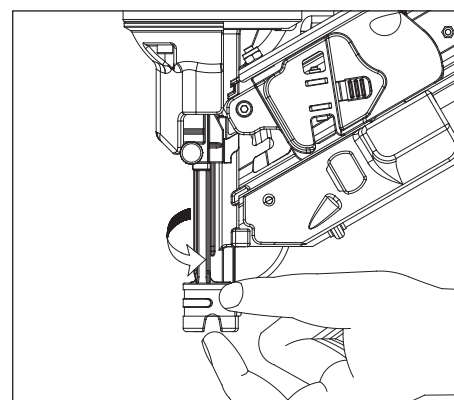

Figure 12 - Nail Depth Adjust
4. Twist WCE 1/4 turn back to its original position as shown. *See Figure 12.*